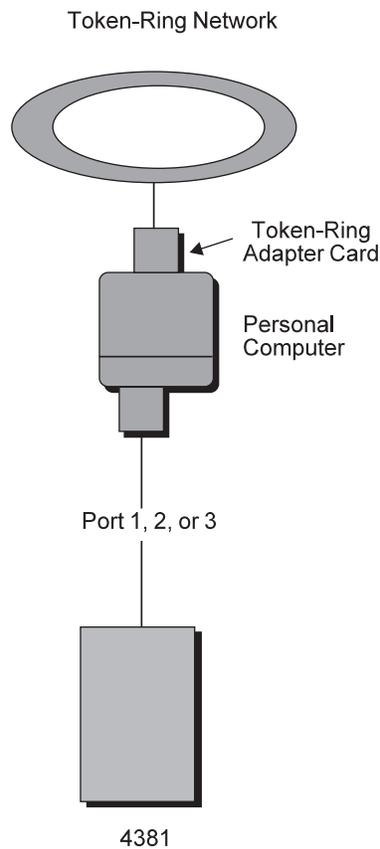

Figure 33. 4381 Operator Console Connection
**4381 Operator Console Connection:** Figure 33 on page 84 shows a primary operator console connection to a 4381 processor.